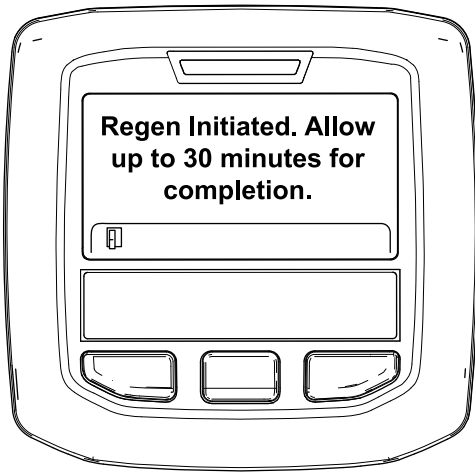

Figure 31
- If the regeneration is allowed, the "Regen Initiated. Allow up to 30 minutes for completion" message displays in the InfoCenter, wait for the machine to complete the parked regeneration process (Figure 31).